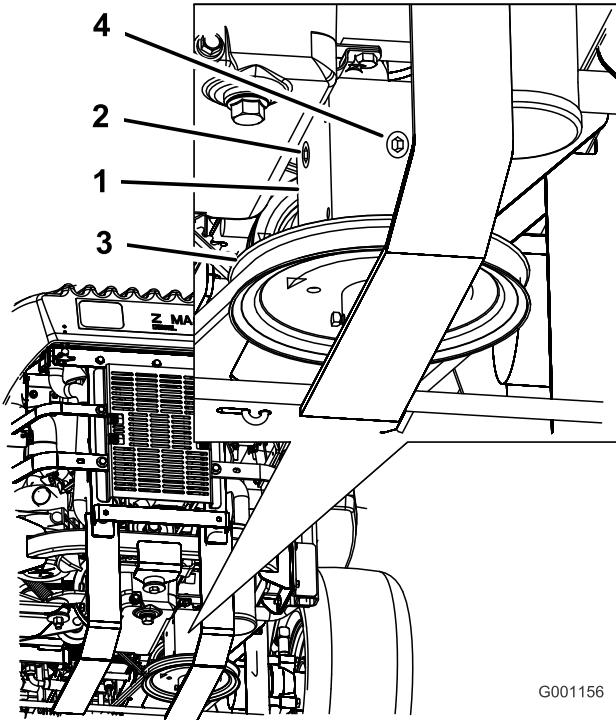

Figure 56
4. Remove the side or rear plug on the gear box. (Figure 56).